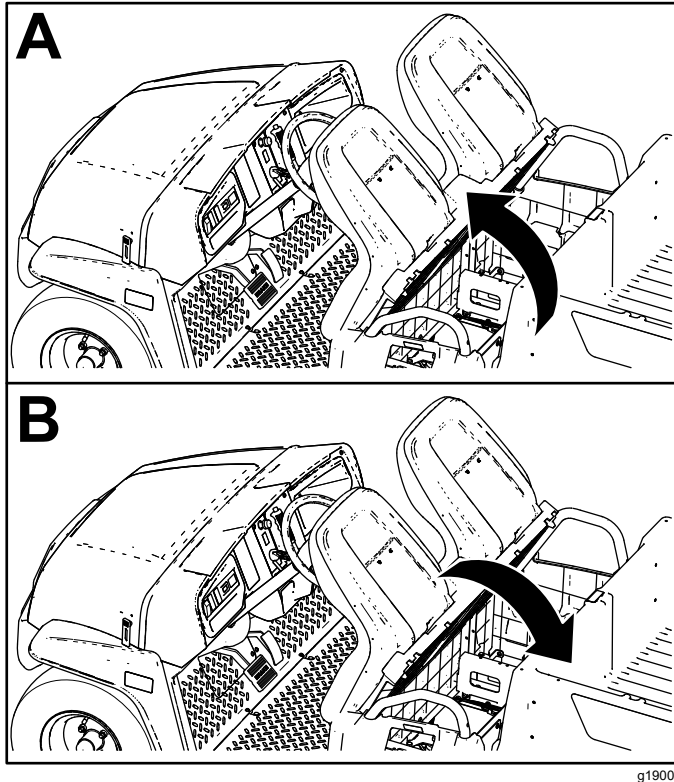

Figure 25
To raise the seat assembly, push the seat assembly forward until it rests on the steering wheel (Figure 25).
To lower the seat assembly, push the seat assembly rearward until it seats back into the original position (Figure 25).
1. Push the seat assembly forward to the raised position (Figure 25).